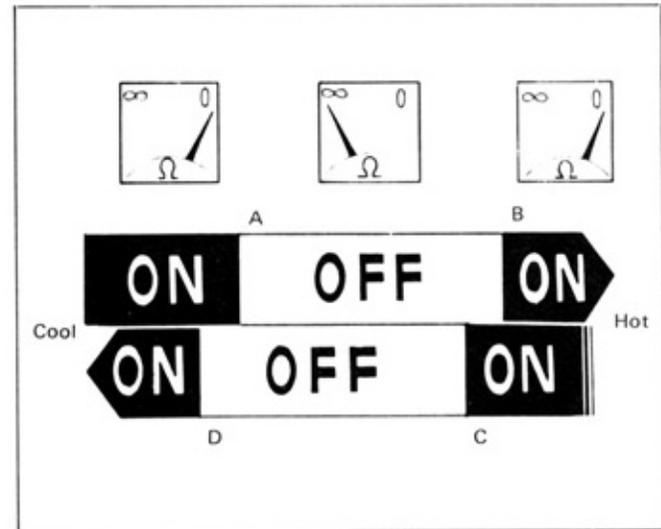

Fig. 1-13 Thermo Switch ON & OFF Ranges
- As shown in Fig. 1-13, if there is conductivity in the "ON" range and no conductivity in the "OFF" range, the switch is in good condition.